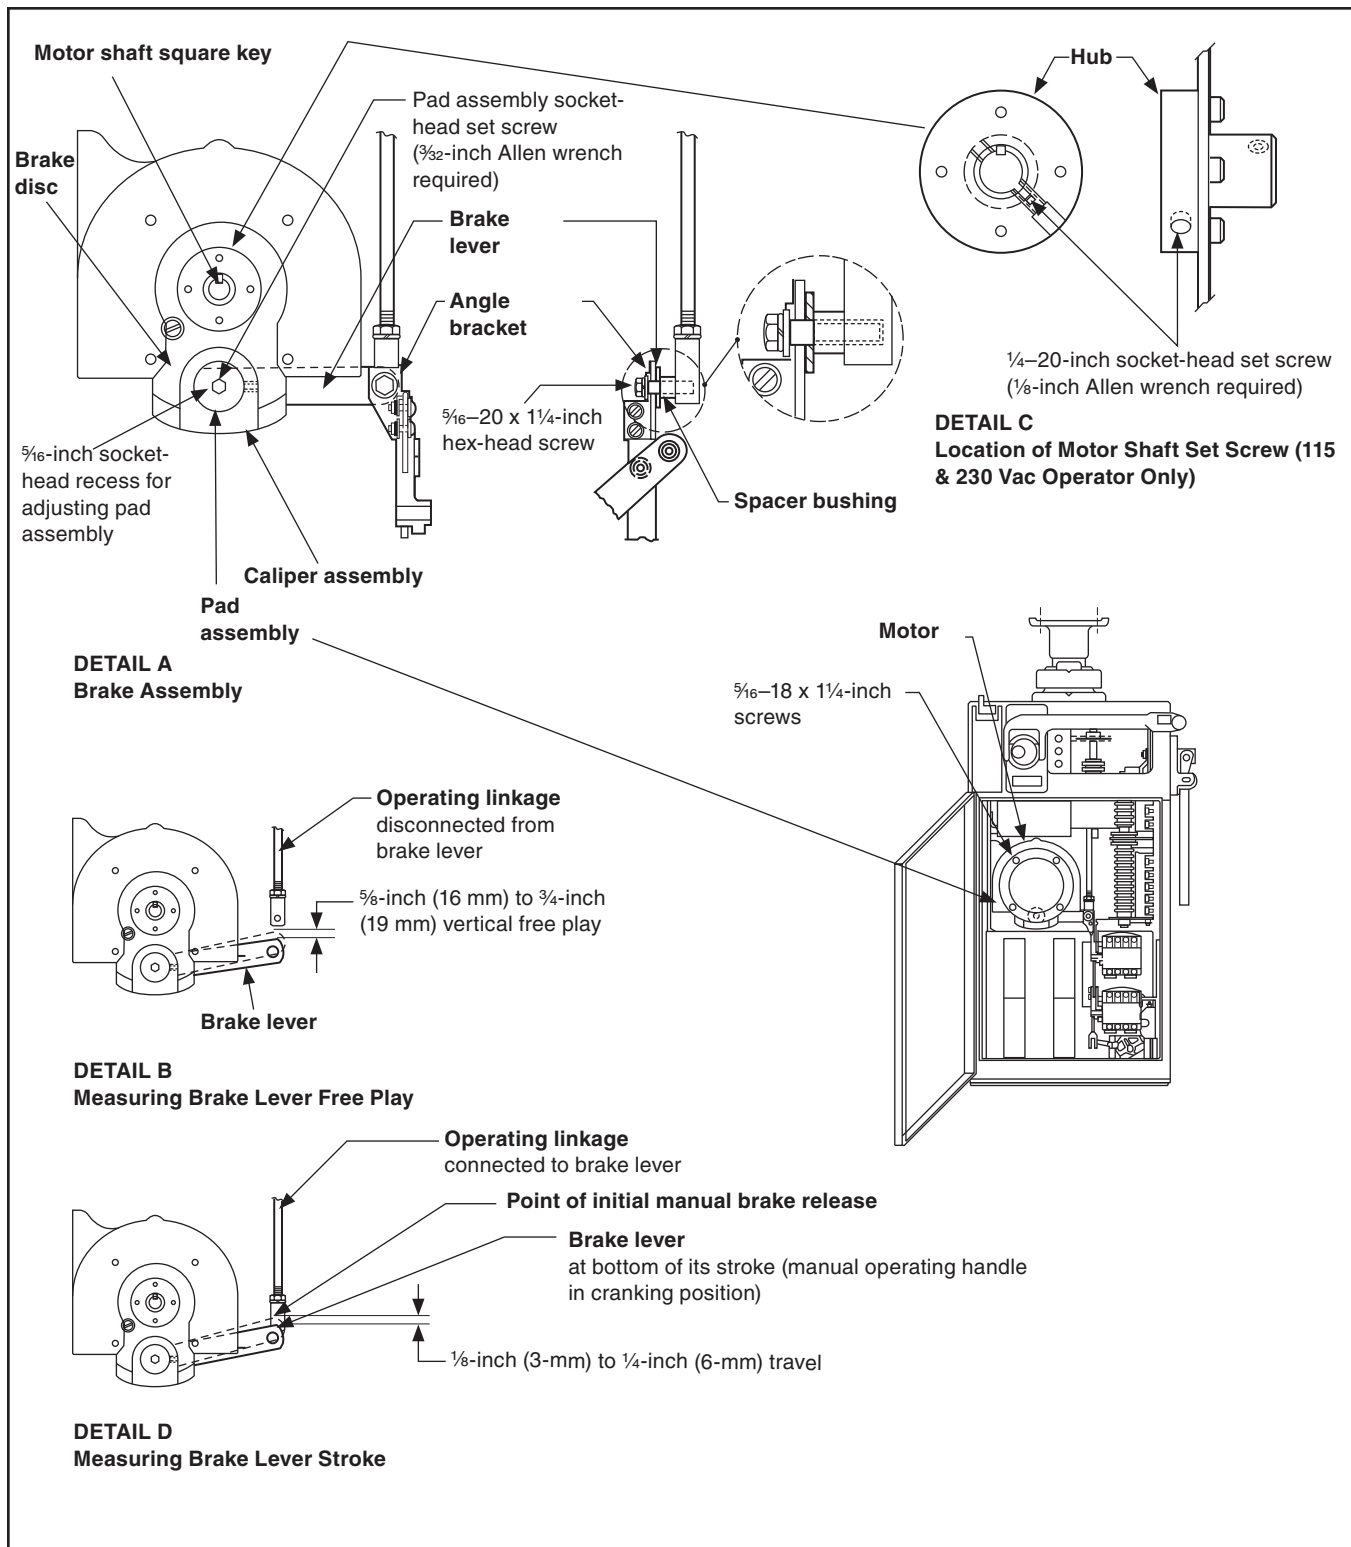

Figure 8. Brake inspection procedure.
During the intermediate segment of the selector handle travel, which includes the position at which actual disengagement (or engagement) of the internal decoupling mechanism occurs, the motor-circuit source leads are momentarily disconnected and both the "opening" and "closing" motor contactors are mechanically blocked in the **Open** position. Visual inspection through the observation window will verify whether the internal decoupling mechanism is in the **Coupled** or **Decoupled** position. See Figure 8 on page 17. The selector handle may be padlocked in either position.
As indicated in S&C Instruction Sheet 711-590, "S&C Mark V Circuit-Switcher: *Inspection Recommendations*," the brake in the Type CS-1A Switch Operator should be inspected every 2,500 operations or five years, whichever occurs more often. The inspection procedure is as follows. See Figure 8 on page 17.
- STEP 3.** Disconnect the linkage rod by removing the 1/4-20 x 1 1/4-inch hex-head screw, lockwasher, flat washer, and spacer-bushing from the end of the brake lever, as shown in Detail A in Figure 8 on page 17. Be careful not to lose these parts. Then, raise the brake lever and measure the vertical free play, as shown in Detail B in Figure 8 on page 17. This dimension should be 5/8-inch (16 mm) to 3/4-inch (19 mm). Should the measurement be outside this range, brake-wear compensation is
Note: 115-Vac and 230-Vac motors use a 1/4-20 socket head-set screw on the side of the brake disc hub, as shown in Detail C in Figure 8 on page 17. Loosen this set screw approximately one-half turn using a 1/8-inch Allen wrench before removing the motor.
- STEP 5.** Using a 3/32-inch Allen wrench, loosen the pad assembly socket head-set screw on the side of the caliper assembly approximately one-half turn. See Detail A in Figure 8 on page 17.
- STEP 6.** Using a 5/16-inch Allen wrench, rotate the pad assembly clockwise until the free play at the end of the brake lever is 5/8-inch (16 mm) to 3/4-inch (19 mm), as shown in Detail B in Figure 8 on page 17. Now, tighten the 3/32-inch pad assembly socket-head set screw.
- STEP 8.** Insert the square key in the keyway, as shown in Detail A in Figure 8 on page 17. Slip the tubular spacer (if furnished) over the motor shaft and reinstall the motor. Position the motor so the two weep holes on the side of the housing face downward.
- (b) Measure the distance the end of the brake lever travels from the point of initial brake release to the bottom of its stroke. (This occurs when the handle locks into the **Cranking** position). This dimension should be $\frac{1}{8}$ -inch (3 mm) to $\frac{1}{4}$ -inch (6 mm). See Detail D in Figure 8 on page 17. If the measurement is outside this range, contact the nearest S&C Sales Office.